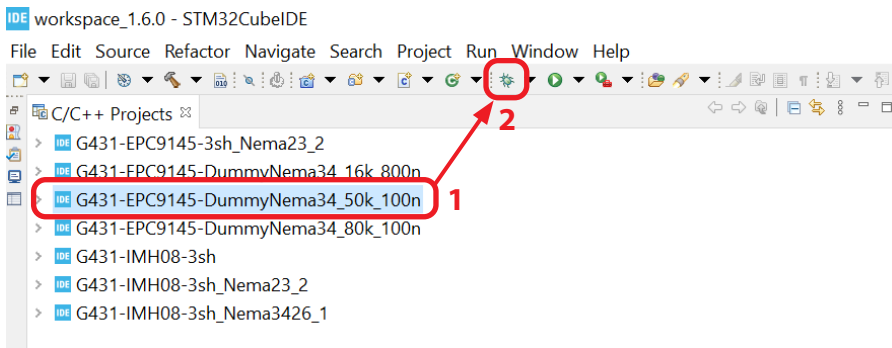
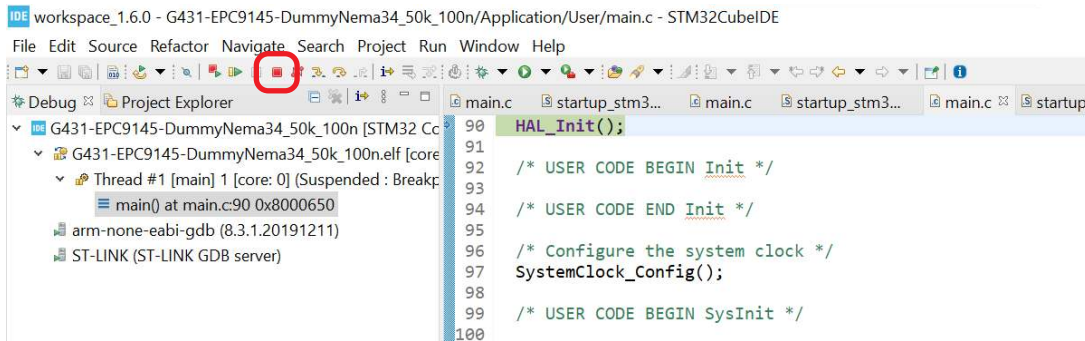

Figure 17: Compile, Build and Flash
Figure 18: Debugger terminate button
**Highlight the project (1)** in the STM32CubeIDE program and click the **Debug (2)** button as in Figure 17. The entire Compilation, link and flash of the project in the STM32 flash will start (a dialog box may appear, in that case click OK). When the process is finished, the Compiler will enter in Debug mode. Click the **Terminate** button as in Figure 18 and disconnect the USB cable. The STM32CubeIDE program can be closed.